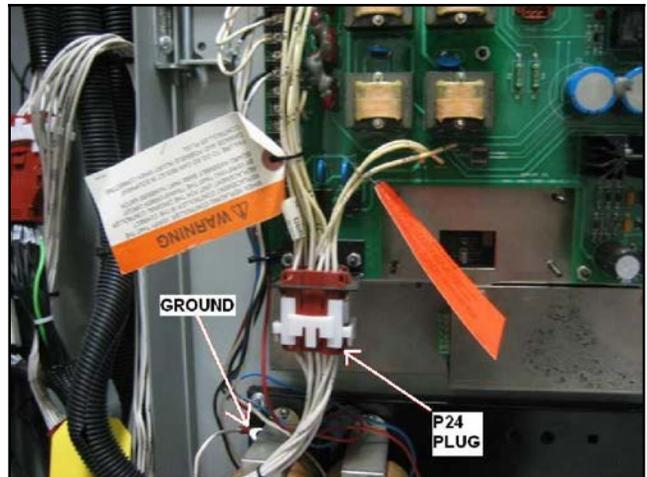
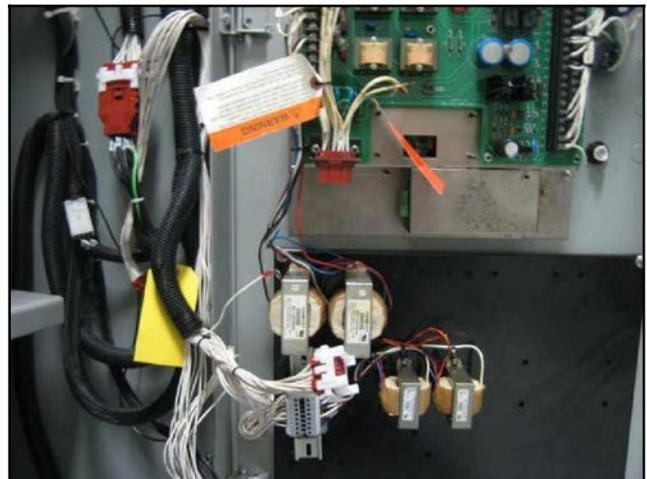

**Figure 11** Disconnect the Meters and Selector Switch
**Figure 12** Meters and Selector Switch Removed
12. If the transfer switch is equipped with meters, disconnect and remove all meters and the selector switch. See Figure 11 and Figure 12.